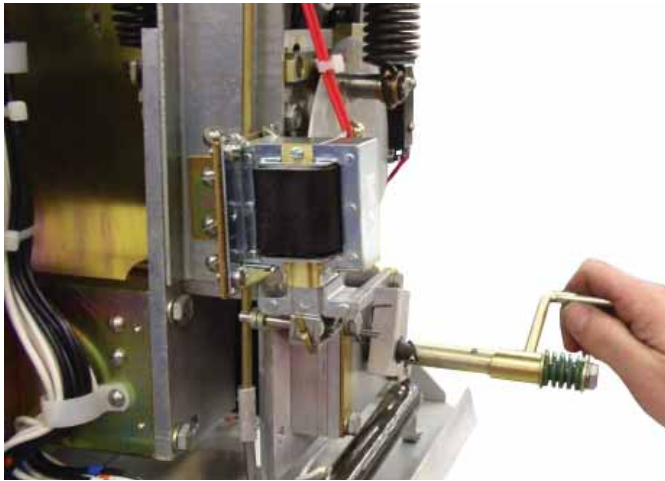

Figure 45.
- i. Using the crank handle provided with the unit, crank the switch until the crank lever begins to rotate. Refer to Figure 45.